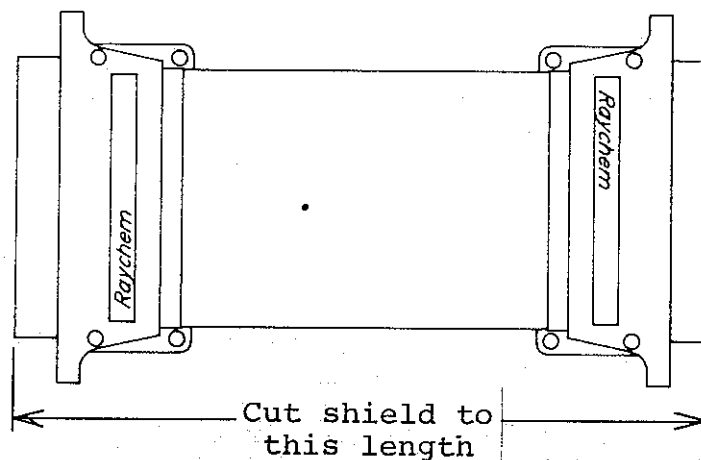

Figure 19. Length Measurement for Wraparound Shield
1. Cut the wraparound shield to the same length as the overall length of the cable assembly from connector interface to connector interface (Figure 19).